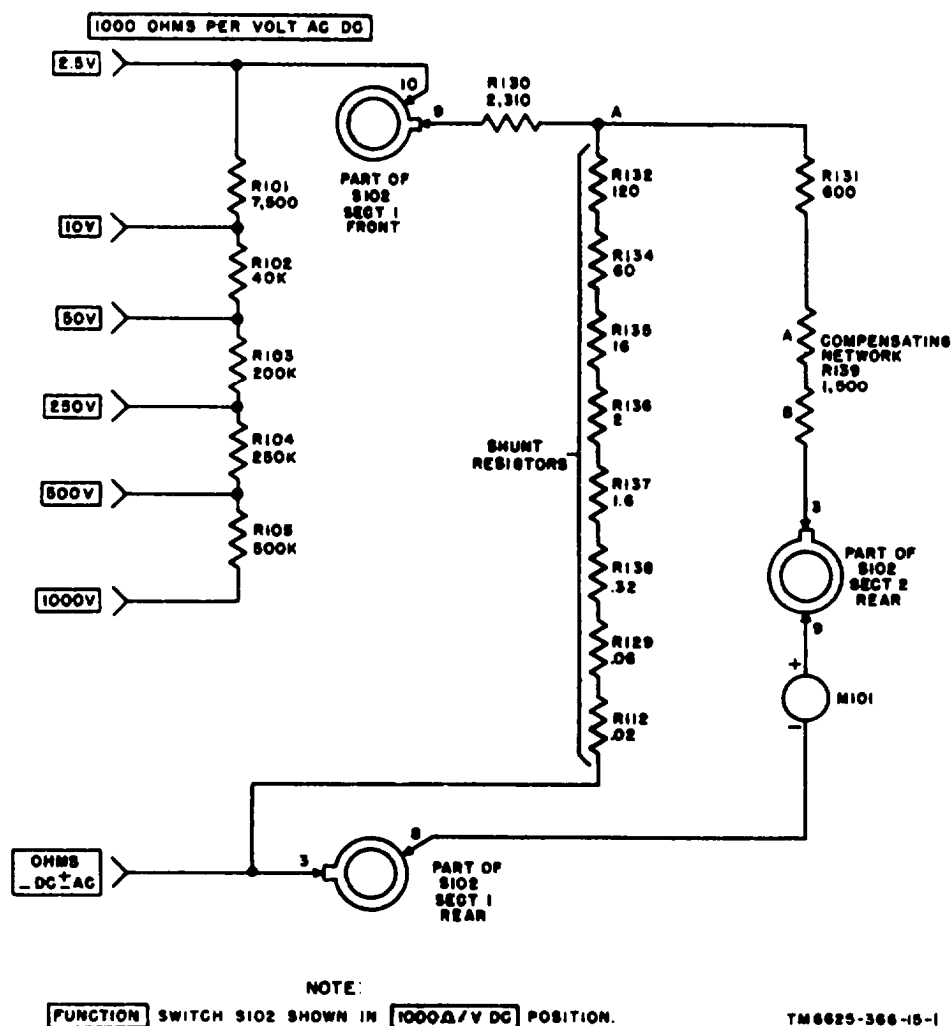

Figure 4-2. DC voltmeter circuit (1,000 ohms per volt), simplified schematic diagram.
4-2. Dc Voltmeter Circuit (1 ,000 Ohms Per volt) (fig. 4-2)
- (1) Current flows from OHMS — DC \pm AC jack to the point of division (B, fig. 4-2).
- (2) At point B, the current divides, and flows through the shunt network consisting of resistors R112, R129, R138, R137, R136, R135, R134, and R132, and also through the meter network consisting of meter M101, switch S102, resistors R139 and R131.
- (3) At full scale deflection, the shunt resistors provide a current path for 950 microampere around meter M101: only 50 microampere will pass through the meter.
- (4) The two currents meet at point A (fig. 4-2) and, since FUNCTION switch S102 is in the 1000W/ VDC position, the current passes through resistor R130 and switch S102.
- (5) The current now flows through series-connected multiplier resistors R101, R102, R103, R104, and R105, and onto the 1000V jack.